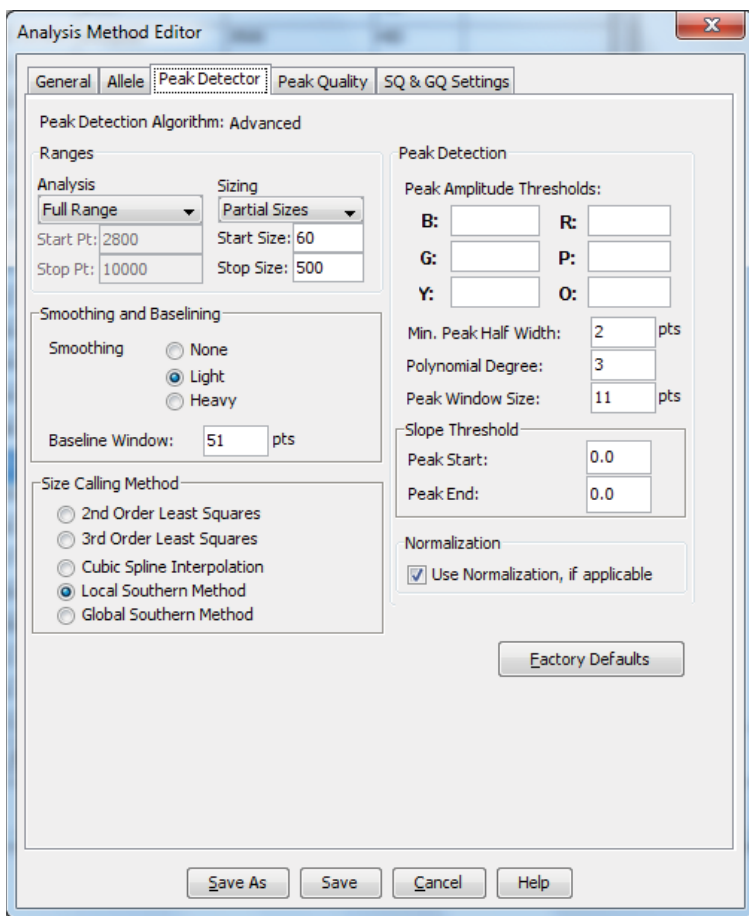

Figure 13. The GeneMapper® ID-X 'Peak Detector' tab.
9. Select the 'Peak Detector' tab (Figure 13). You will need to optimize these settings. In-house validation should be performed.
- d. The peak window size shown in Figure 13 is not the default setting. It has been changed to 11 from the default value of 15. This ensures that the software can resolve alleles in the ladder that are 1 base apart for the larger loci such as D1S1656, D12S391 and D2S441.